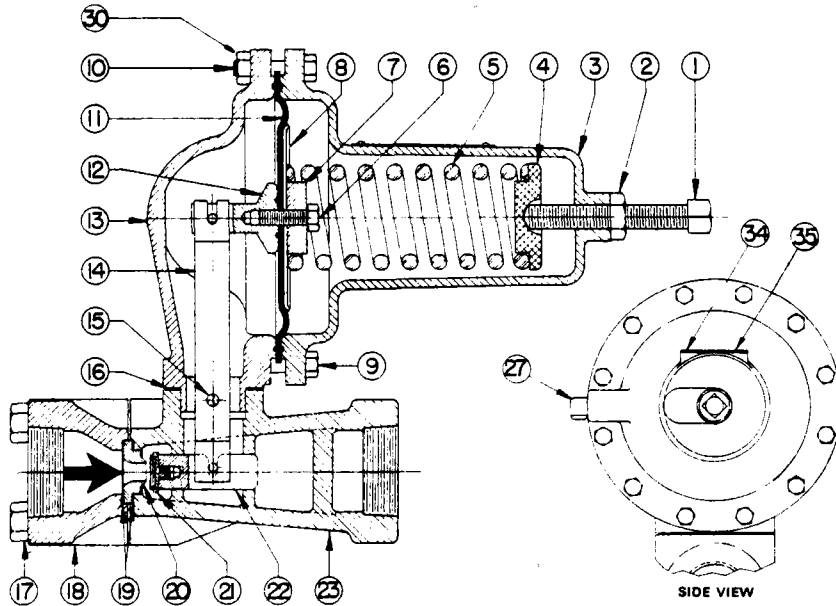

Figure 5. Spring-Loaded Type 630 Regulator—Low-Pressure Construction
Loosen the locknut (key 2, figures 5 and 7) atop the spring case. While monitoring the pressure, rotate the adjusting screw (key 1, figures 5 and 7) clockwise to increase set pressure or counterclockwise to decrease it. When the unit is regulating or relieving pressure at the desired value, tighten the locknut.
Except where indicated, key numbers in the following procedures are shown in figure 5 for spring-loaded Type 630 regulator, in figure 6 for pressure-loaded Type 630 regulator, in figure 7 for spring-loaded Type 630R relief valve and in figure 8 for pressure-loaded Type 630R relief valve.
With some piping systems it may be possible to omit step 1 below by removing four cap screws (key 17) and spreading the body (key 23) and inlet adaptor (key 18) far enough apart to allow removal of the seat ring (key 20) and Type 630 valve disc (key 21, figures 5 and 6) or the seat ring (key 20) and the Type 630R valve seat O-ring (key 37, figures 7 and 8).
1. Disconnect piping from inlet adaptor (key 18). Remove four cap screws (key 17) and adaptor.
2. Remove seat ring (key 20) and gaskets (key 19).
3. To remove Type 630 valve disc (key 21, figures 5 and 6) or Type 630R valve seat O-ring (key 37, figures 7 and 8), first disconnect remote vent pipe (if one is used). For pressure-loaded constructions, disconnect loading-regulator supply line.
4. Unscrew the two cap screws that secure diaphragm adaptor (key 13) to body (key 23); remove diaphragm adaptor and attached spring case (key 3).
5. If it is necessary to replace the lever (key 14), drive out the pin (key 15) and slide the lever out of the diaphragm adaptor. When replacing the lever, make sure the slot engages the connector assembly (key 12) and replace the pin.
6. Remove valve carrier assembly (key 22) from body.
- a. For Type 630, use a 3/4-inch socket wrench to remove and re-install valve disc and holder assembly (key 21, figure 5 and 6).
The spring case (key 3) must point away from the adaptor (key 18) on Type 630 regulators as shown in figures 5 and 6. On Type 630R relief valves, the spring case must face the same direction as the adaptor (key 18) as shown in figures 7 and 8.
9. Be certain the lever (key 14) engages the valve carrier.
10. Secure the diaphragm adaptor (key 13) to the body (key 23). Fit the adaptor (key 18) to the body (key 23) and install and tighten the four cap screws (key 17).
- a. For spring-loaded constructions, loosen locknut (key 2, figures 5 and 7). Turn the adjusting screw (key 1, figures 5 and 7) counterclockwise until spring compression is relieved.
4. Remove spring case (key 3) by unscrewing cap screws and nuts (keys 9, 10, and 30).
5. Remove diaphragm (key 11) and attached parts from the lever (key 14).
6. Unscrew cap screw (key 6) from connector head assembly (key 12) and disassemble the diaphragm assembly.
7. Install new diaphragm. Note that low-pressure constructions use a diaphragm plate (key 8, figure 5) on the spring case side of the diaphragm. Low-pressure, pressure-loaded constructions use a diaphragm plate on each side of the diaphragm and a diaphragm plate gasket (key 38, figure 8) with each plate. Install new gaskets when replacing diaphragm.